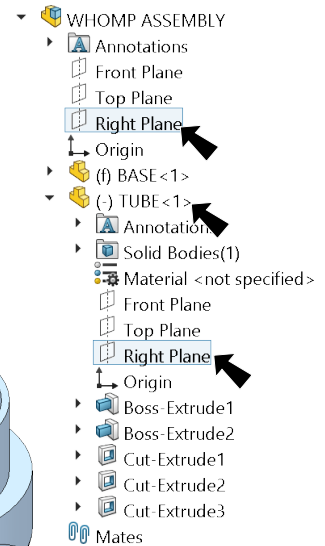

Fig. 4
Step 2. Expand the flyout Feature Manager design tree, expand **TUBE** and click **Right Plane** , **Fig. 4**.